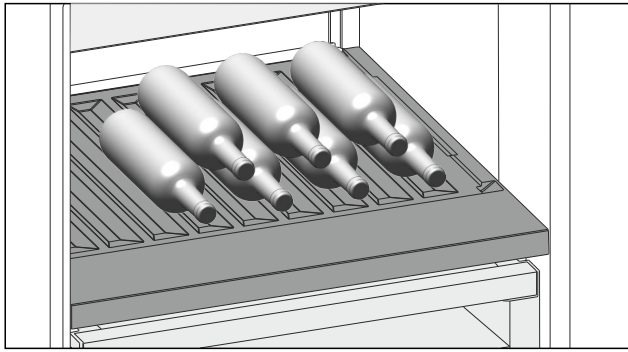

Fig. 115
- Place bottles in the back row with their bases against the back wall. (see Fig. 115)